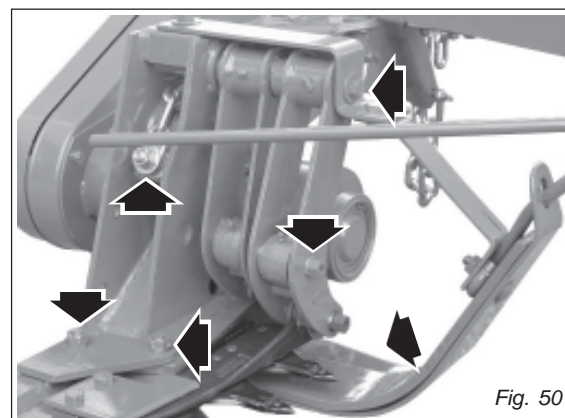

Fig. 50
- Check the tightness of the connecting rod bolts regularly (Fig. 50).